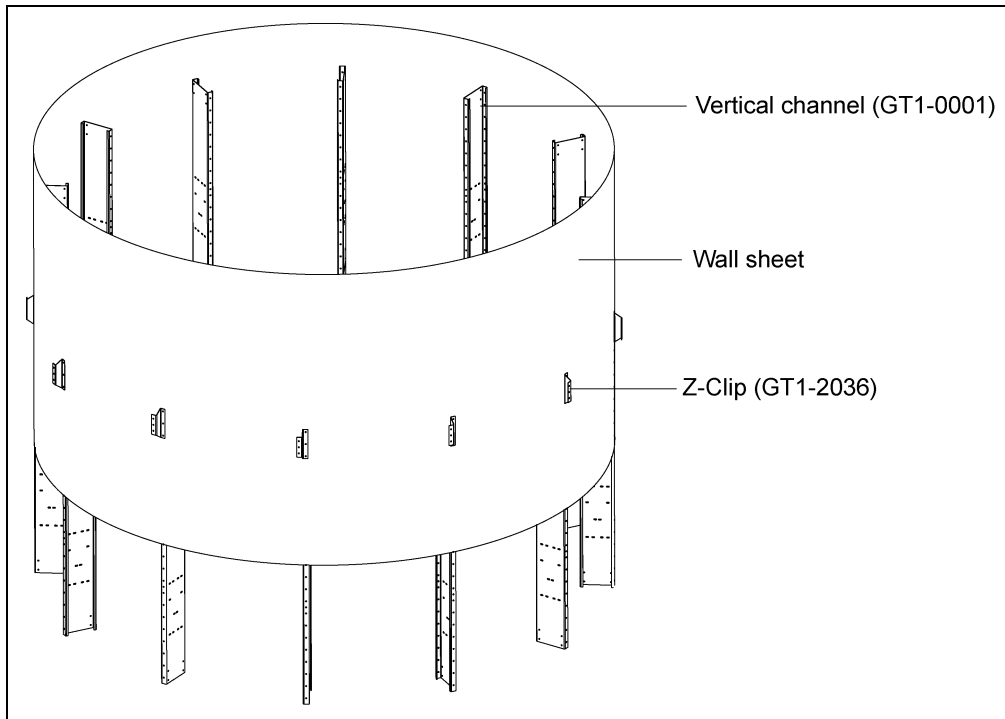
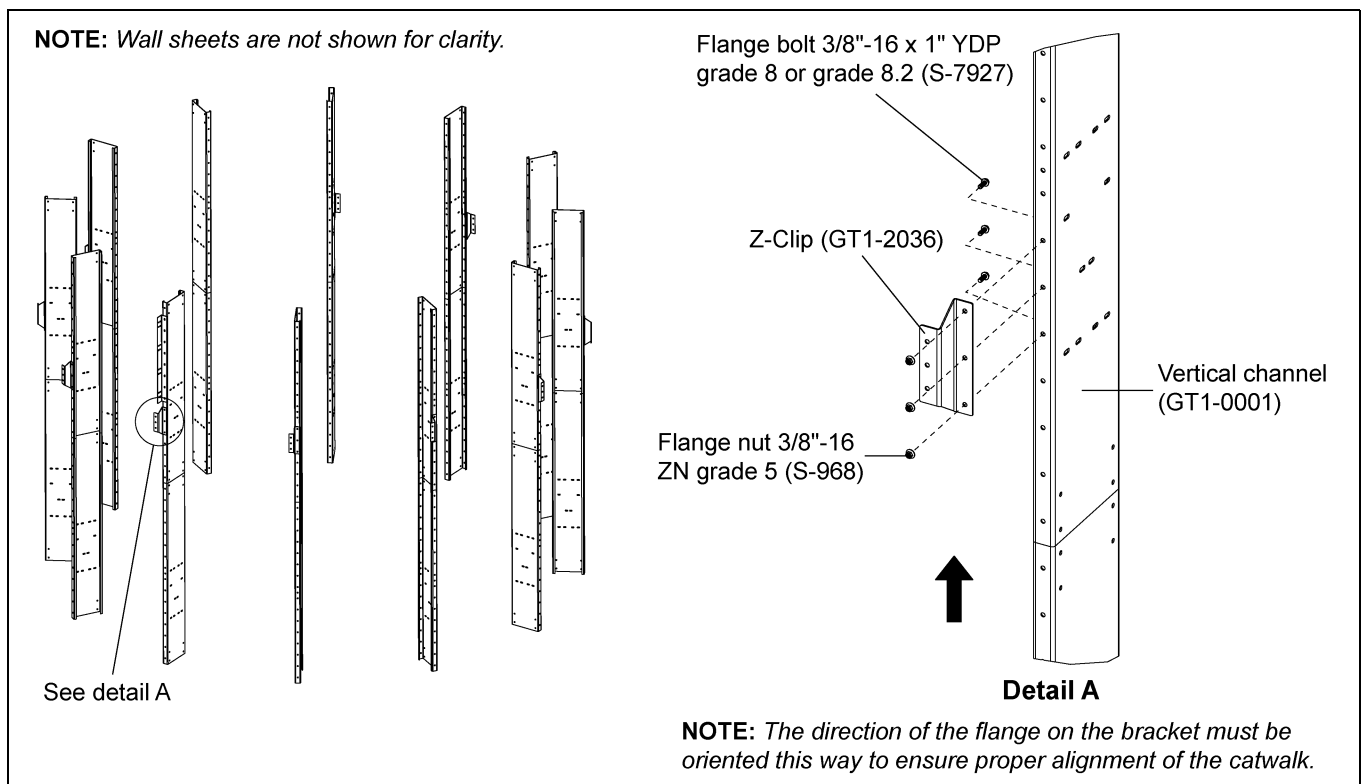

Figure 4A
Figure 4B
1. Bolt Z-clip (GT1-2036) to all vertical channels (GT1-0001). The Z-clip can be installed on each vertical channel as wall sheets are installed using 3/8"-16 x 1" YDP grade 8 or grade 8.2 bolts (S-7927) and 3/8"-16 ZN grade 5 nuts (S-968). (See Figure 4A and Figure 4B.)